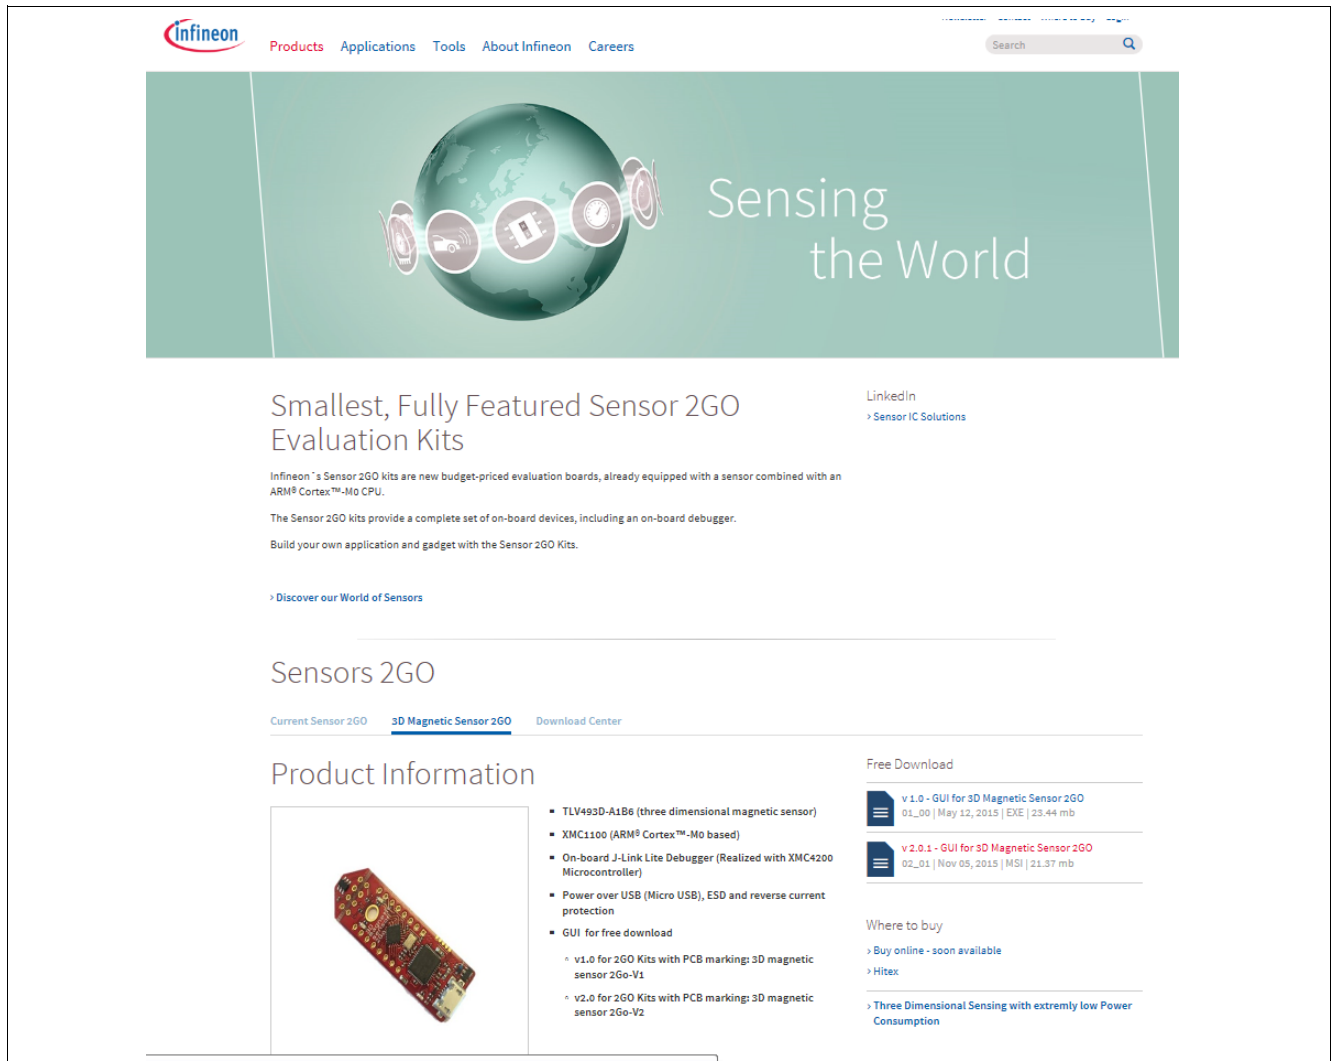

Figure 11 Download “3D Magnetic Sensor 2 Go” software
Step 1: Enter the Infineon web to access the software. The link to the software is mentioned in **Chapter 1.2**, the web looks like in **Figure 11**. Double click to the software link to start the download.